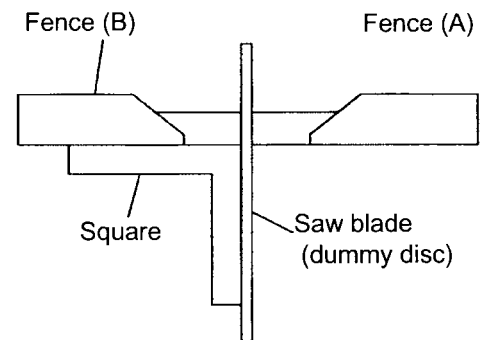

Fig. 71
Squareness between fence (A) and fence (B) and slide pipes (Place a square against fences (see Fig. 71), slide the head and check for any clearance between the dummy disc and the square.)	0.15/180